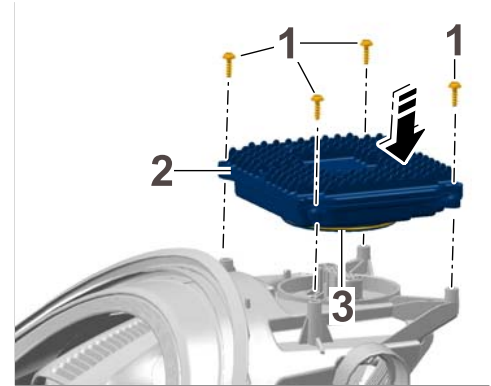

Figure 6
- 2.4.1 Check that the seal ⇒ *Figure 6 -3-* is fitted correctly on the LED module control unit ⇒ *Figure 6 -2-*.
- 2.4.2 Carefully insert LED module control unit ⇒ *Figure 6 -2-* into the headlight.
- 2.4.3 Screw in and tighten screws ⇒ *Figure 6 -1-*.